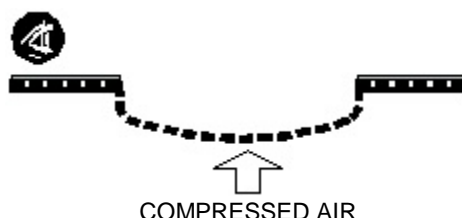

Figure 15: Burner Module Profile Compressed Air Orientation
2. Use only compressed air to clean the burners by blowing into the “flame” side of the burner mesh. See Figure 15.